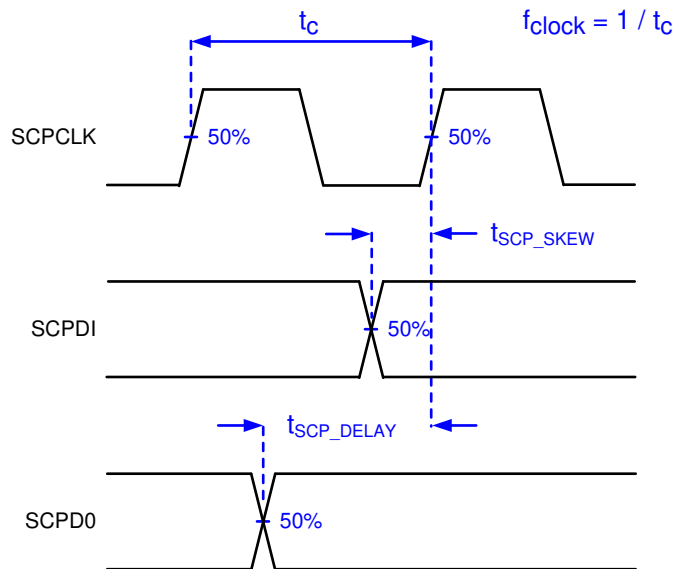

Figure 6-3. Serial Communications Bus Timing Parameters
- (5) PWRDNZ input pin resets the SCP and disables the LVDS receivers. PWRDNZ input pin overrides SCPENZ input pin and tri-states the SCPDO output pin.
- (6) The SCP clock is a gated clock. The duty cycle shall be 50% $\pm$ 10%. SCP parameter is related to the frequency of DCLK.
- (7) Refer to Figure 6-3.
- (8) SCP internal oscillator is specified to operate all SCP registers. For all SCP operations, DCLK is required.
SERIAL CONTROL BUS TIMING PARAMETERS (See Figure 6-3 and Figure 6-4)